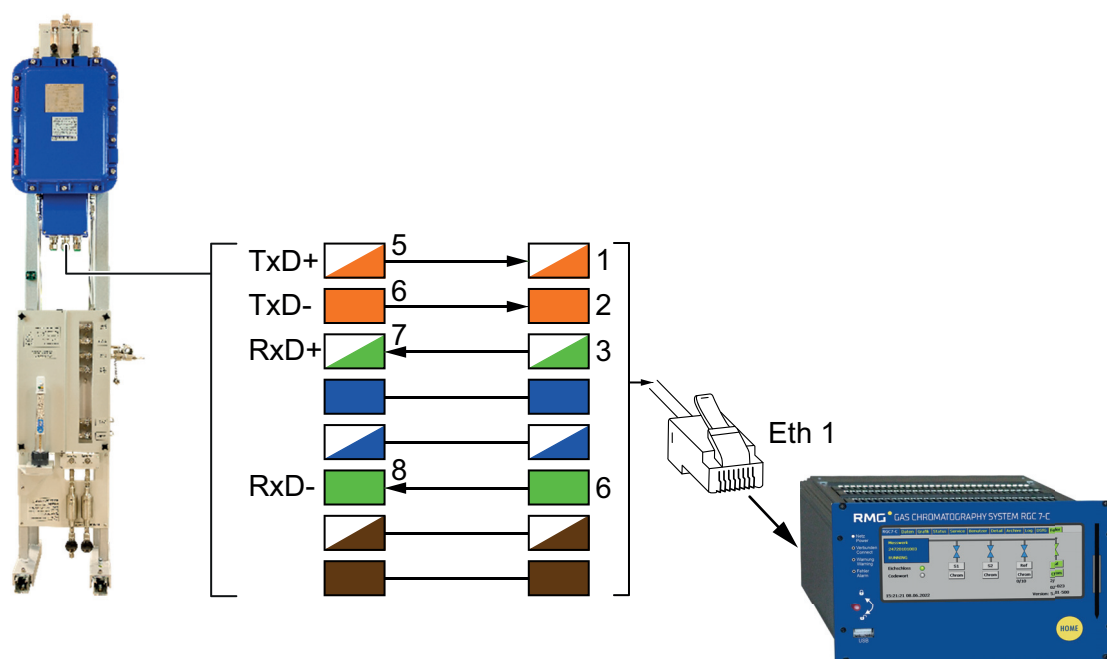

Fig. 8: Terminal assignment for Ethernet cable in the socket of the RGC 7-M
- Connect the cores of the cable to the terminals in the socket of the RGC 7 measuring unit as shown in the following table (cf. also fig. 8).